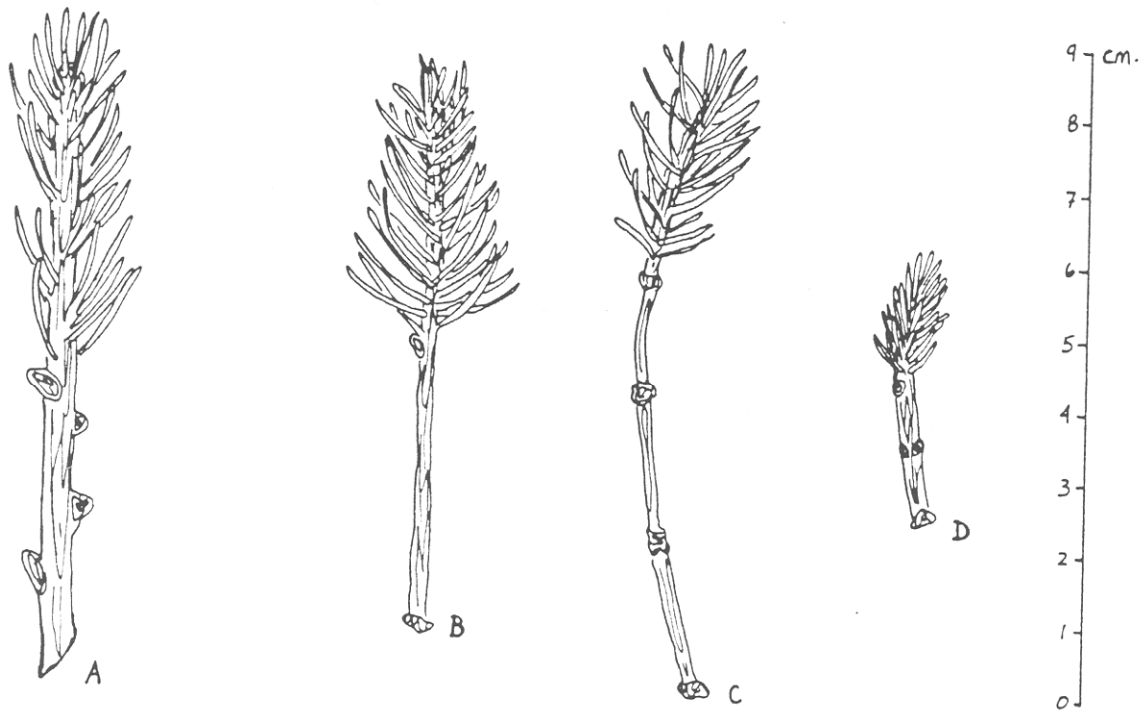

Figure 1. Types of white spruce scions used for grafting.
**NOTE:** When collecting from over-mature trees, scions tend to be very short and spindly and it may be necessary to cut several years growth to obtain reasonable scion length. See Figure 1.